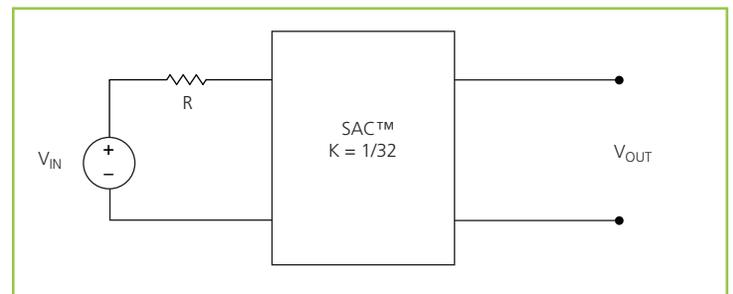

Figure 18 — K = 1/32 Sine Amplitude Converter™ with series input resistor
ROUT = 0 Ω and IQ = 0 A, Eq. (3) now becomes Eq. (1) and is essentially load independent. A resistor R is now placed in series with VIN as shown in Figure 18.
Assuming that  $R = 1 \Omega$ , the effective R as seen from the secondary side is  $0.98 \text{ m}\Omega$ , with  $K = 1/32$  as shown in Figure 18.